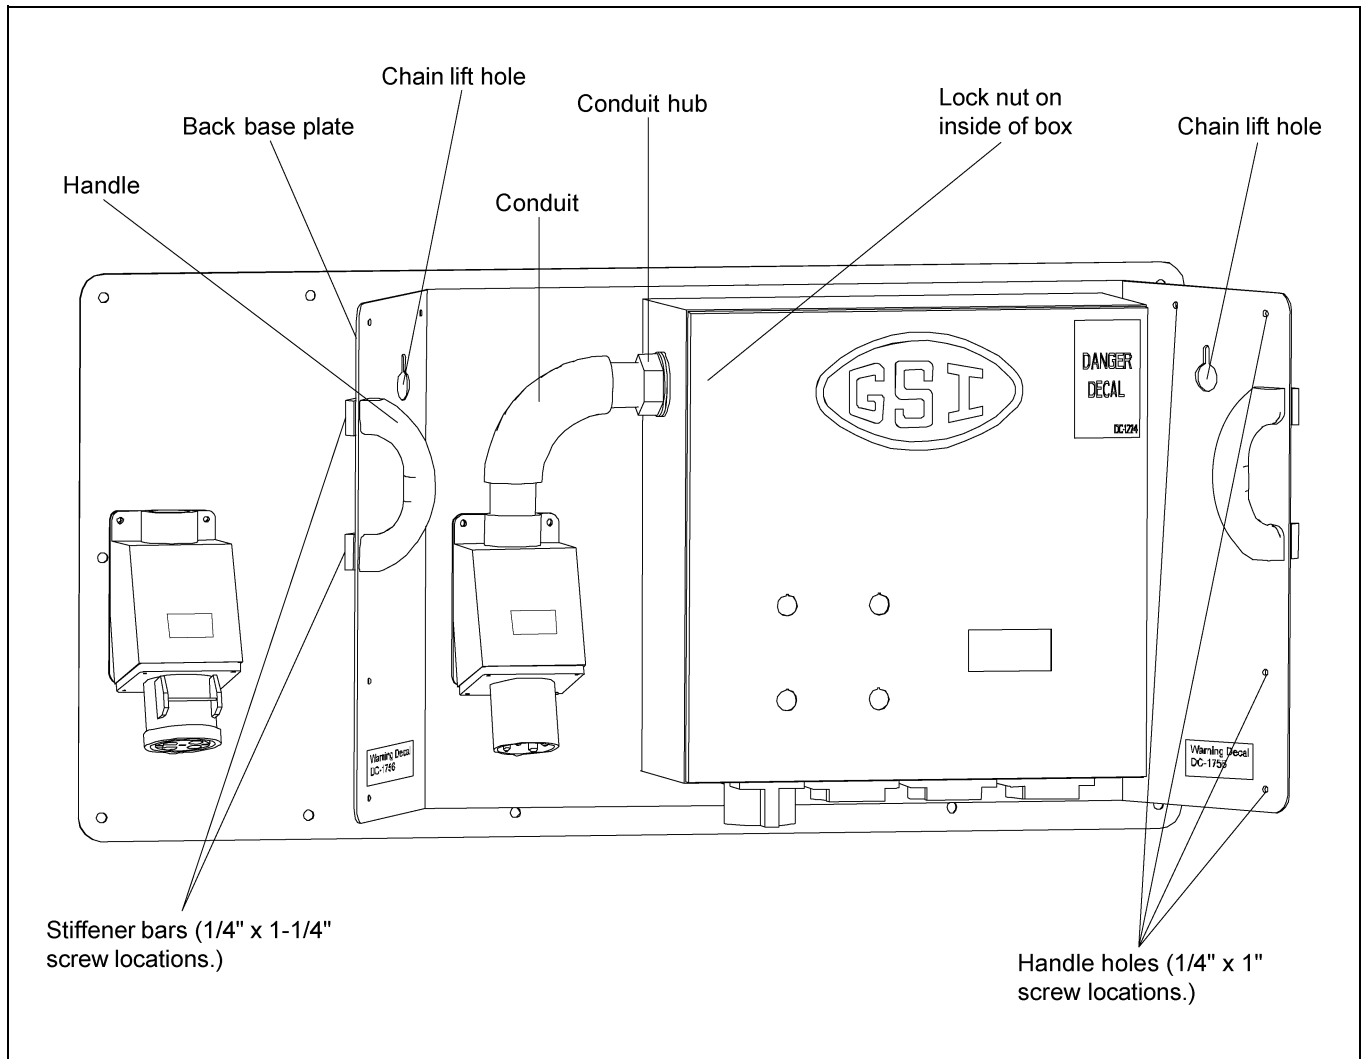
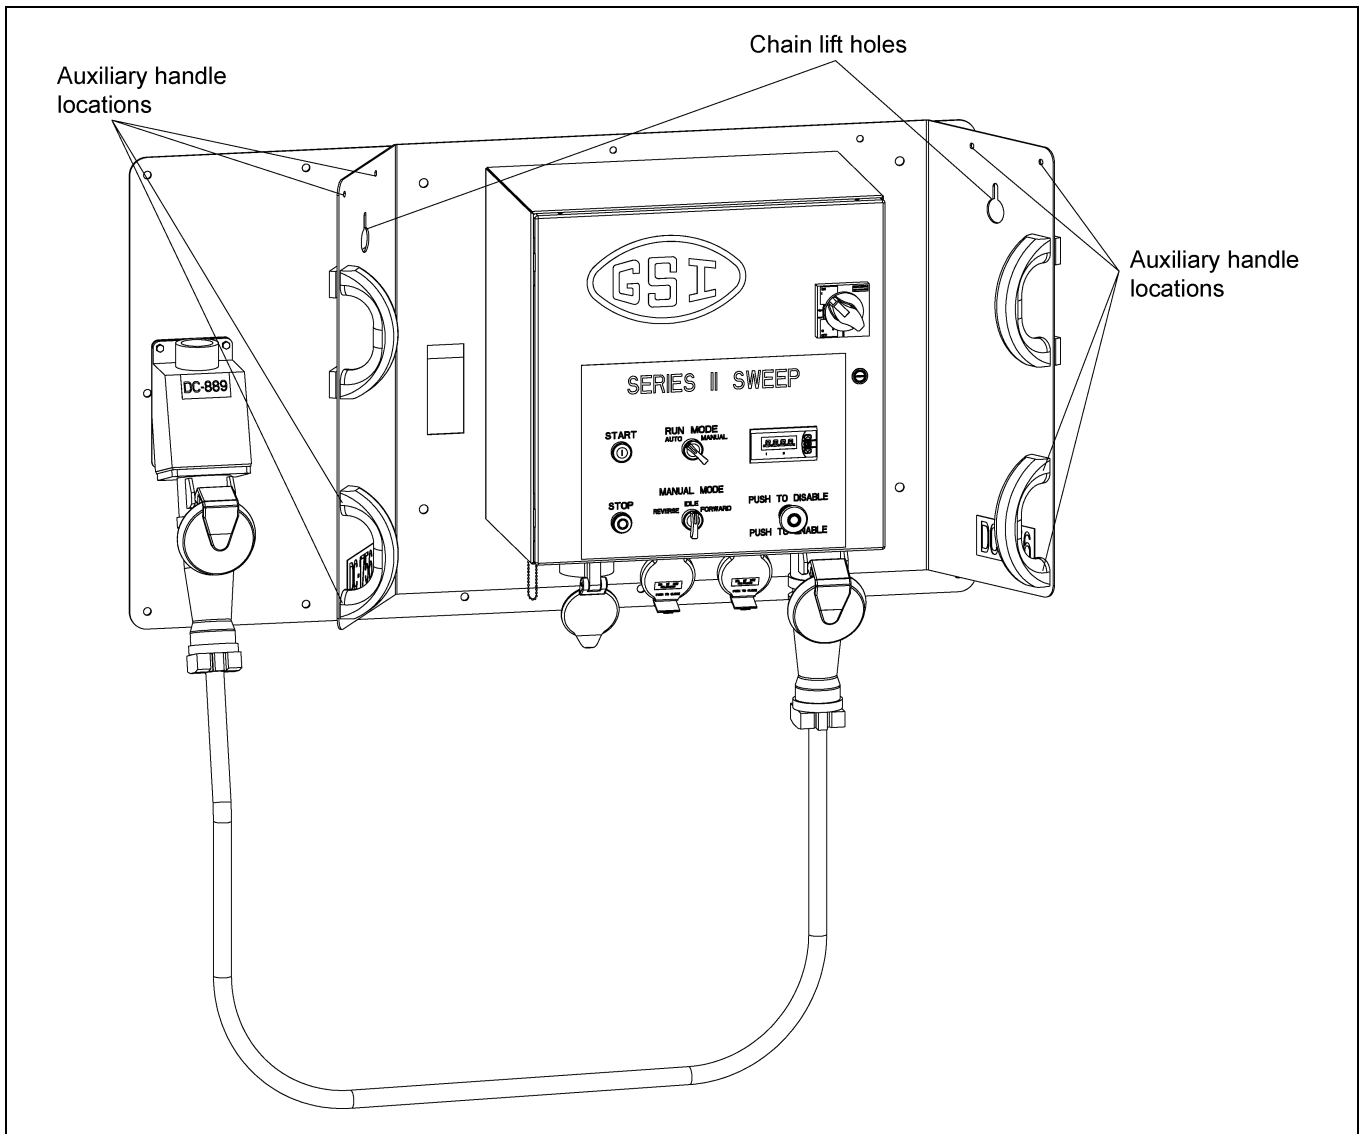

Figure 5F
Figure 5G
Attach handles. Four (4) handles are supplied and can be located in any of the holes on the outside edges of the back base plate. USE THE CORRECT SIZE SCREWS. (Only two (2) handles shown.) (See Figure 5F below and Figure 5G on Page 23.)